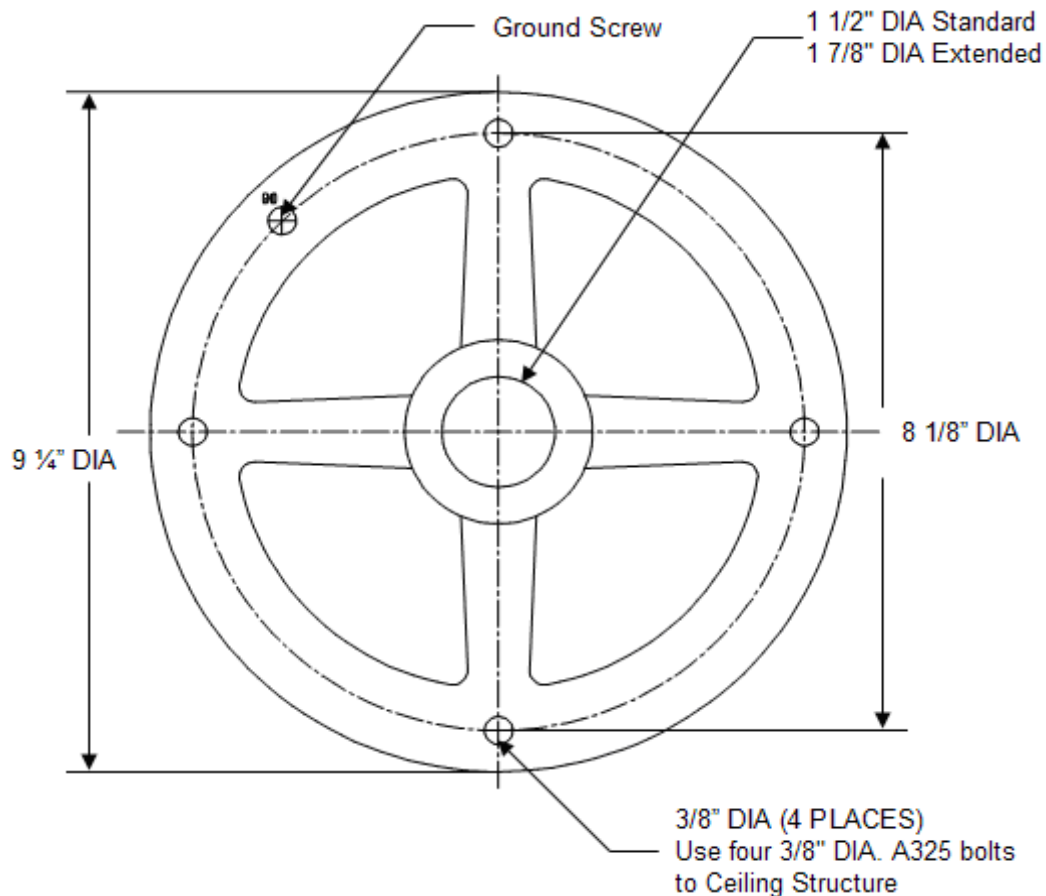

Figure 4: Ceiling Casting Mount Diagram
- Figure 4: Ceiling Casting Mount Diagram). Make all electrical connections in compliance with all applicable electrical codes.